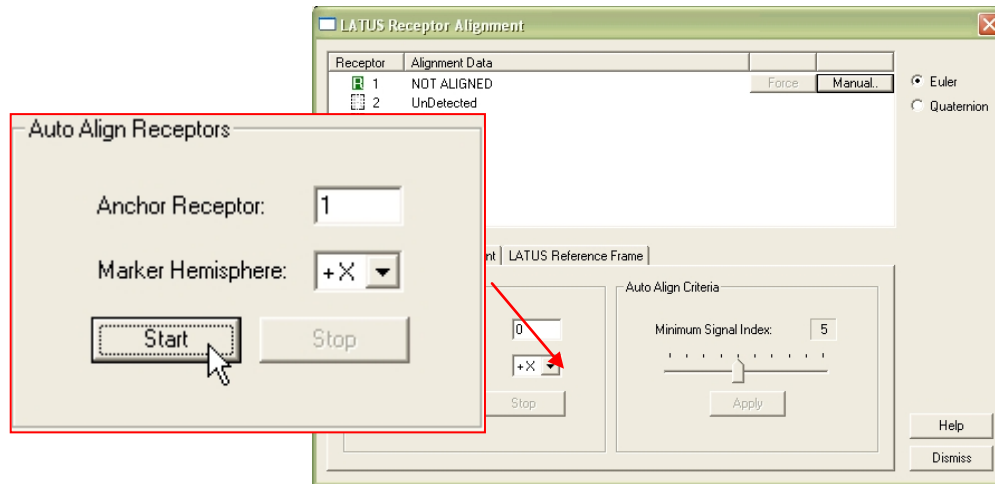

Figure 1-35: Start Auto Align
1.5.8 With the receptor and powered-on marker positioned in the test setup as described in Step 1.2.5 on page 3, begin the “Auto Align Receptors” process. Since there is only one receptor, that one receptor is designated as the *anchor receptor* and as such is automatically aligned as the origin and frame of reference for the LIBERTY LATUS. Click on **Start** in the *Auto Align Tab* as shown in Figure 1-35.